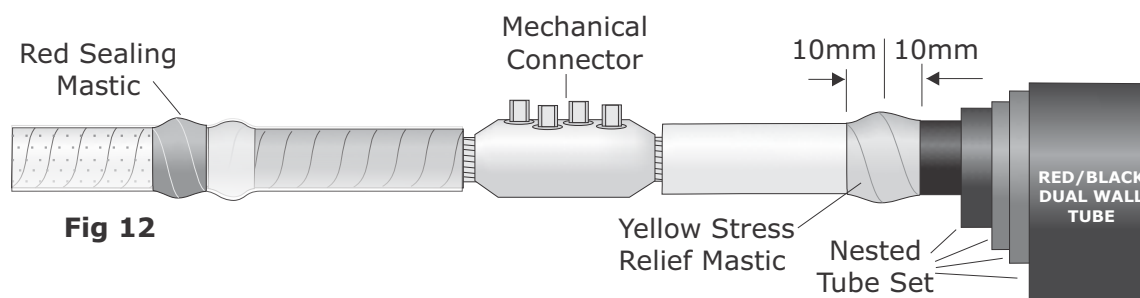

Fig 12
17. Ensure the outer shrink tube/s are over the cable end/s. Park the stress control tubes, red insulation tubes and red/black dual wall tubes over each core as shown in Fig 12.
18. Stretch the yellow stress relief tape and apply over the screen cut area, extending onto the primary insulation by 10mm as in Fig 12.
19. Apply the red mastic sealing tape over the paper cores at a point just behind the bulge of the previously applied yellow stress relief tape (Fig 12).